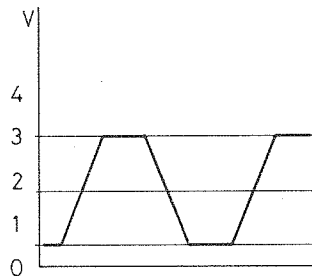
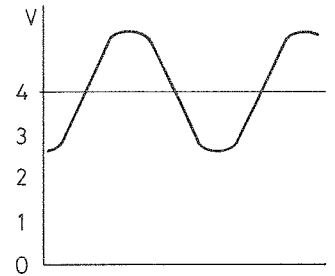

Fig. 6
Fig. 7
- 1) The voltage wave mode as shown in Fig. 6 appears on the output terminal of the Hall IC.
- 2) The wave (Fig. 6) is amplified by the transistor X105 and the bias voltage as shown in Fig. 7 is applied to the X106. The X106 becomes ON state, and the voltage across the collector and emitter of X106 decreases to cut off the X107.